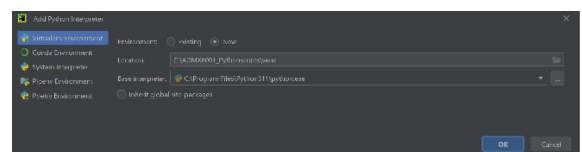

Figure 45. Install Additional Python Libraries in PyCharm
- The user can add additional Python libraries in a Command Prompt window (see the Install Additional Python Libraries section) or in PyCharm, as shown in Figure 45.